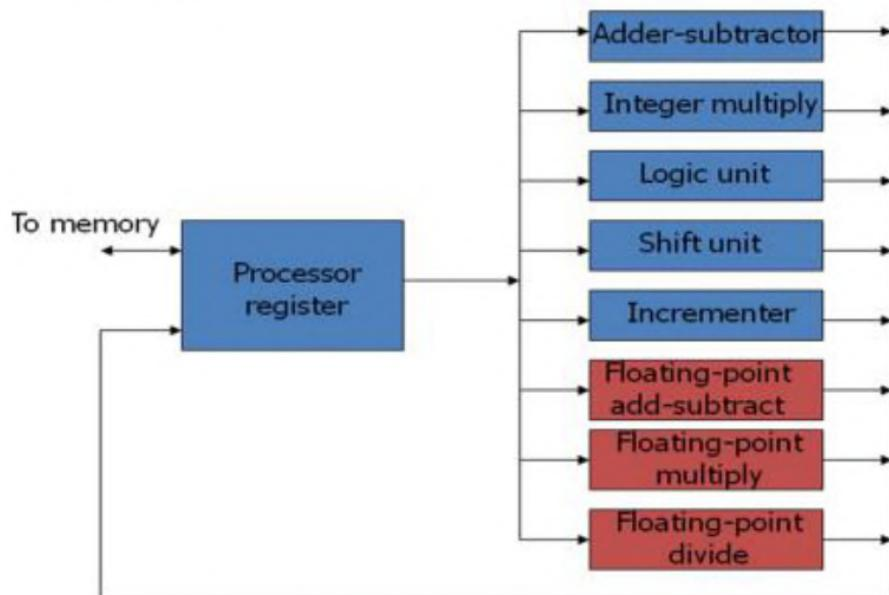

Fig 4-5: Processor with multiple functional units
- 5) Fig. 4-5 shows one possible way of separating the execution unit into eight functional units operating in parallel